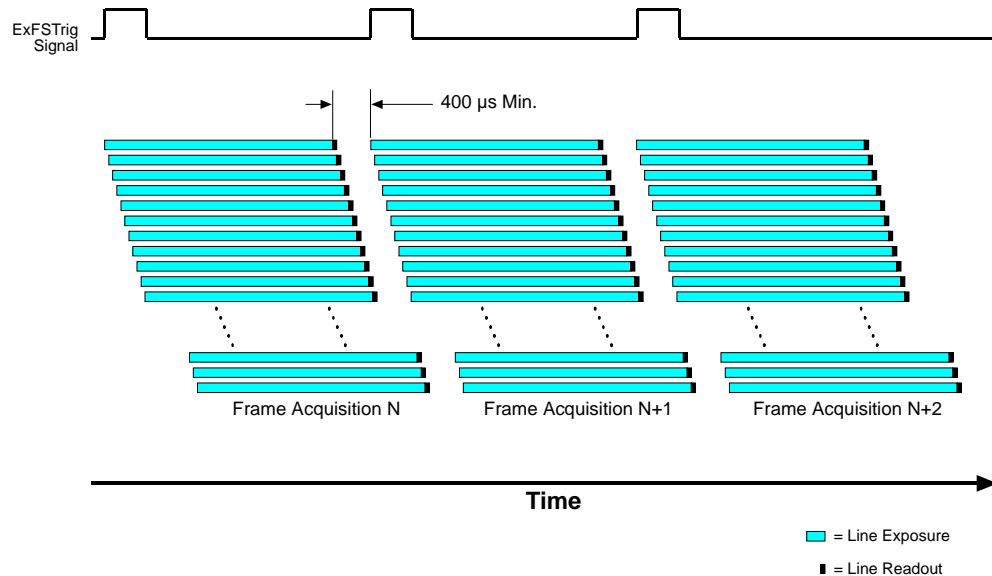

Fig. 62: Acquisition Overlap Guideline
- You must wait a minimum of 400 μ s after the end of exposure for line one in frame N before you can trigger acquisition of frame N+1. This requirement is illustrated in Figure 62